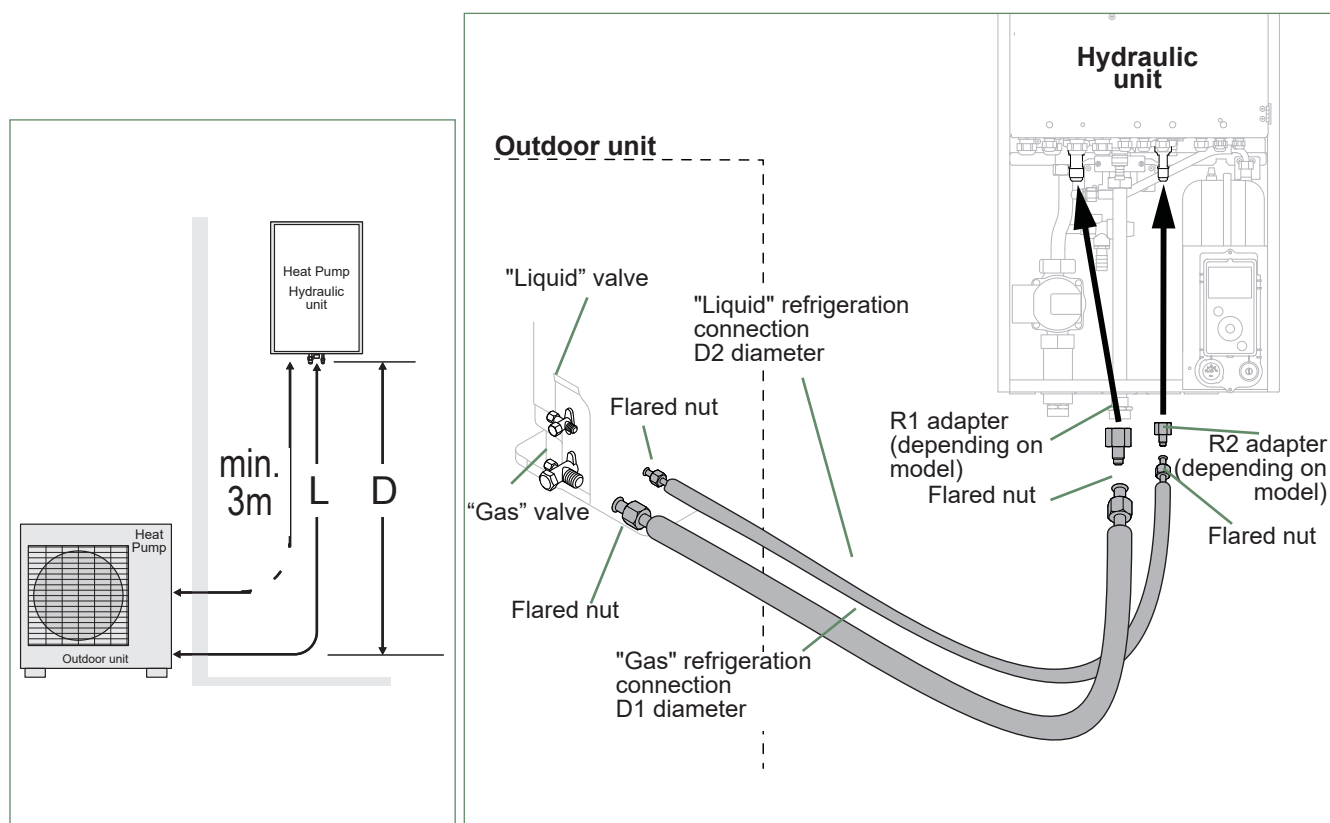

fig. 32 - Refrigeration connections (authorised diameters and lengths)
- Where necessary, connect an adapter (reducer) 1/4"- 3/8" or 1/2"- 5/8" (see fig. 32).